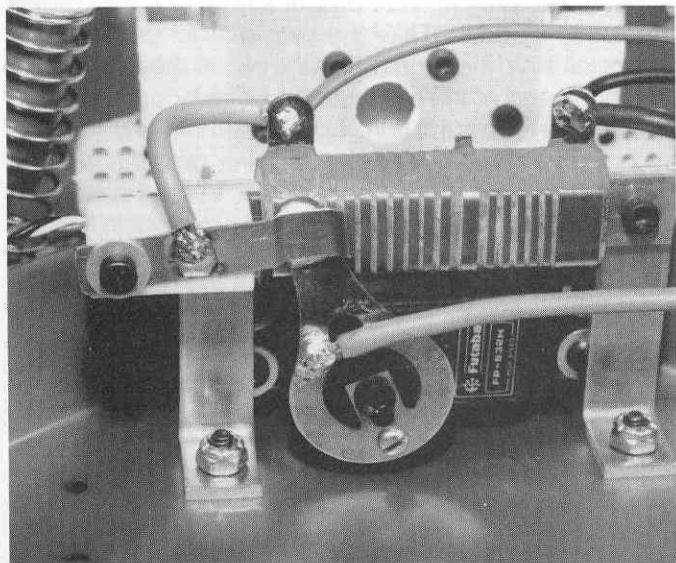

Fig. 177
□ **Fig. 177** This is the full power position of the wiper arm. It should be directly behind the bypass button and in the center of the wide band on the resistor.